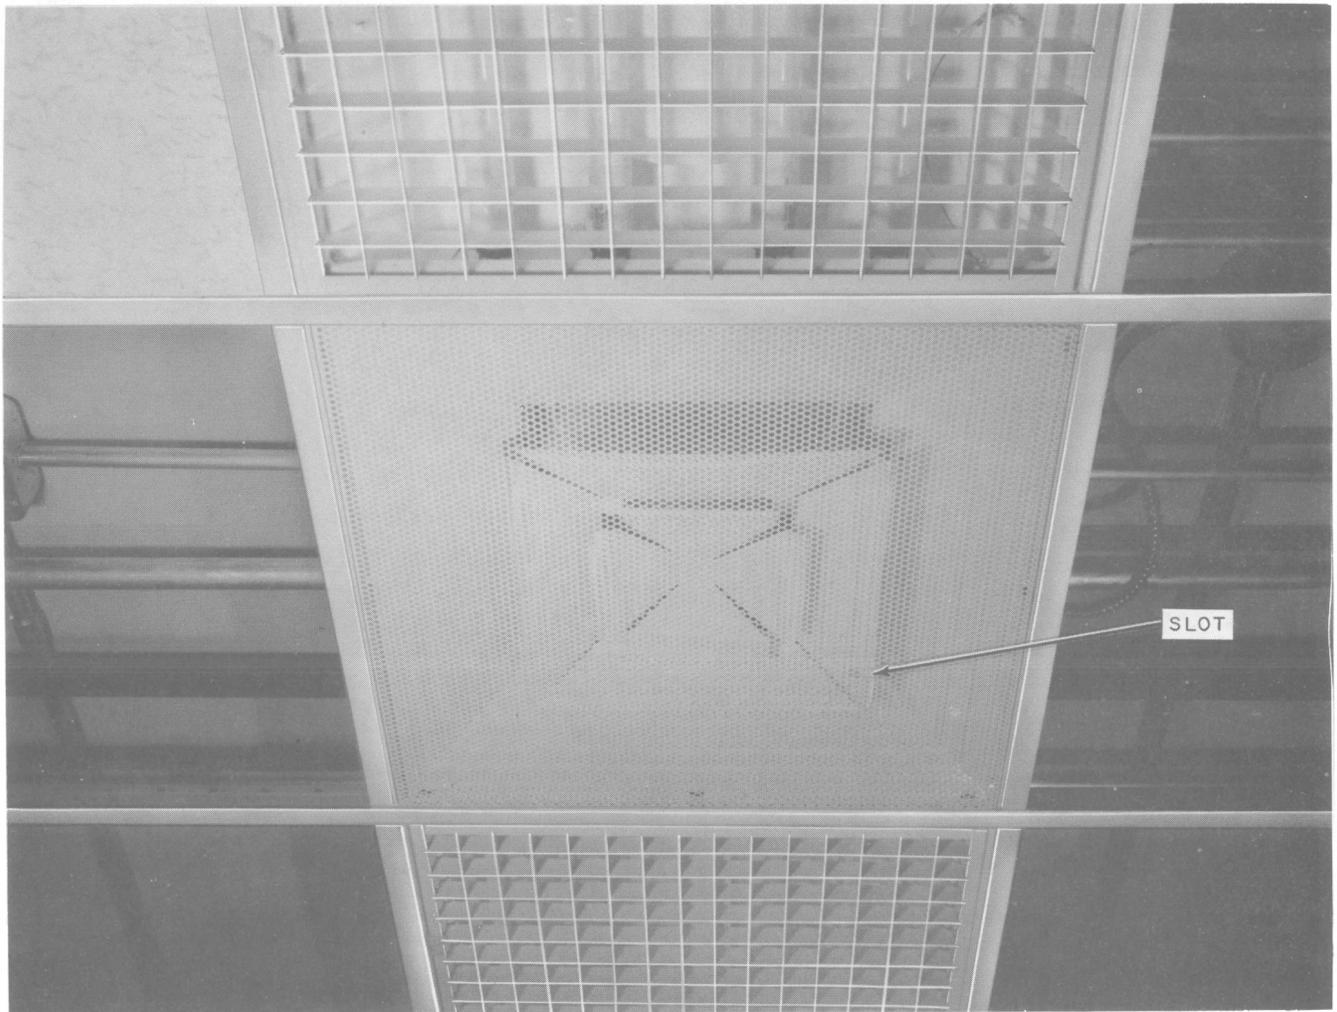
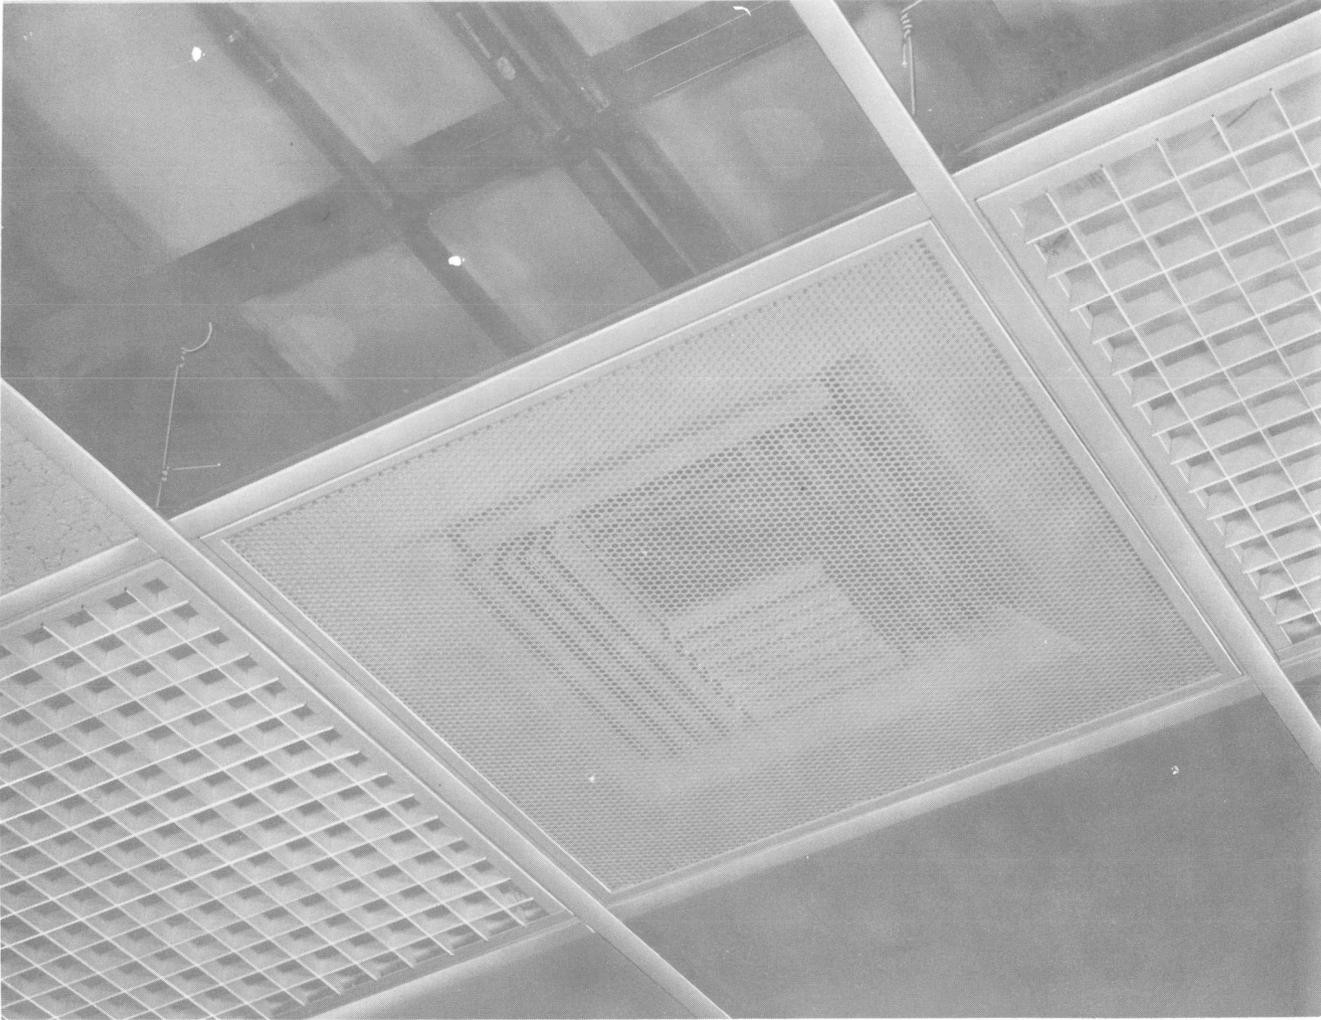
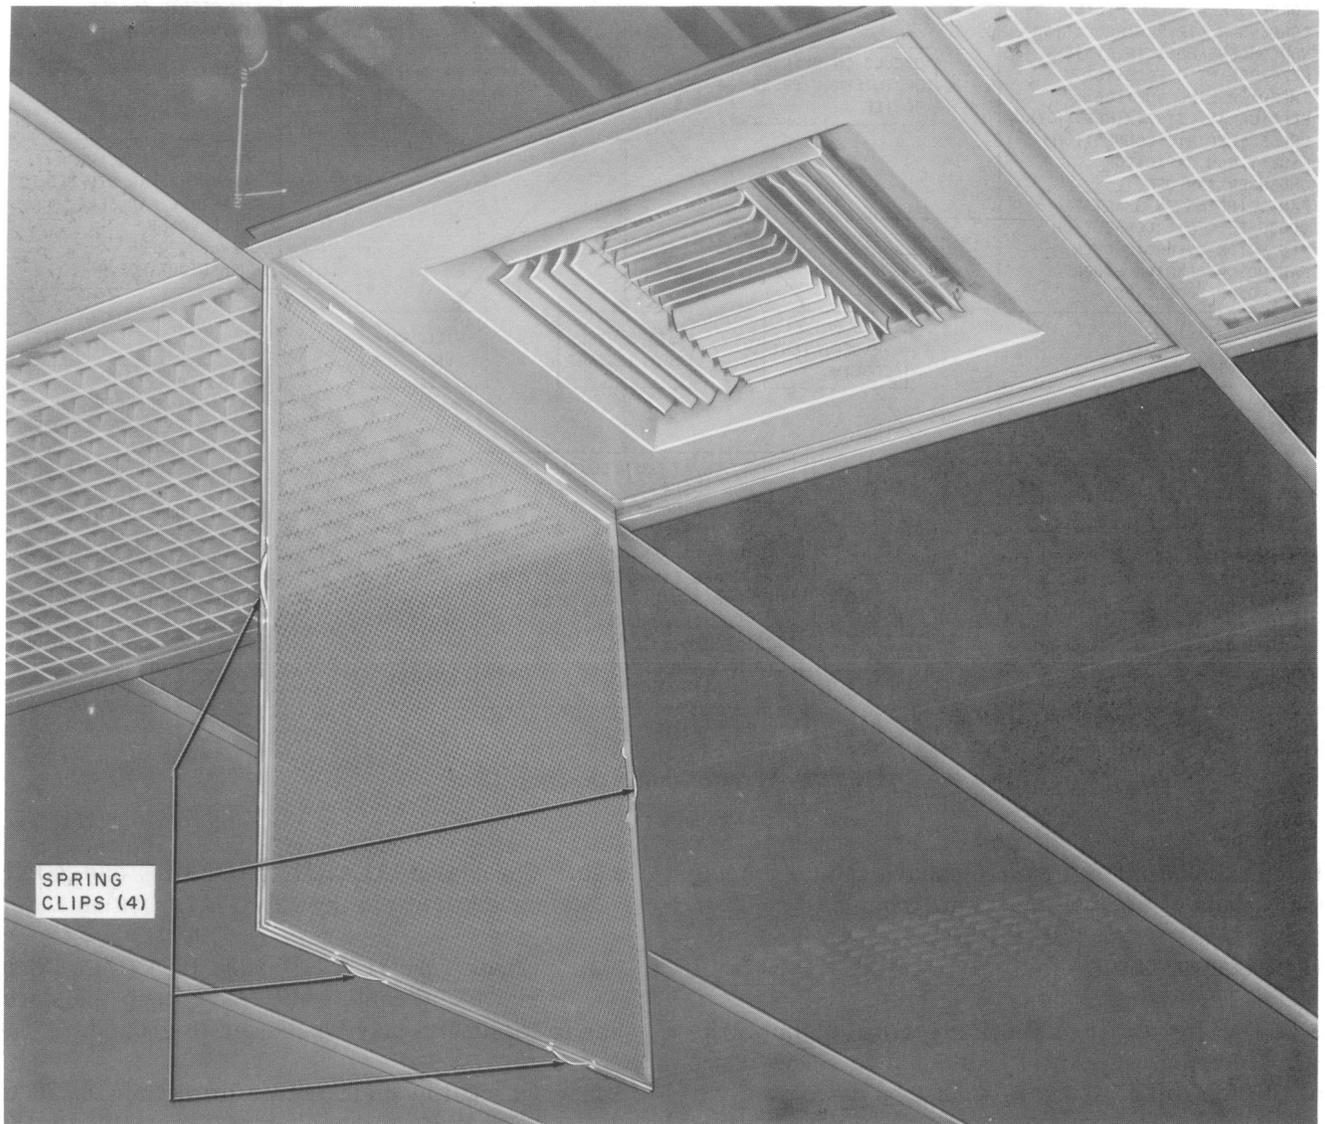

Fig. 9—Ceiling Diffuser (Old Type)
Fig. 10—Ceiling Diffuser (New Type)
Fig. 11—Ceiling Diffuser With Screen Lowered
2.16 Ceiling Diffusers and Air Regulation: The modules have a suspended ceiling of acoustical tile. The suspended ceiling is approximately 10 inches below the main ceiling. This 10-inch space acts as an air plenum for the heating and air conditioning system. Regulation of the dispersed air is accomplished by the use of adjustable louvers, refer to Fig. 9 and Fig. 10.
2.17 Regulation of the air flow through the ceiling diffuser, shown in Fig. 9, may be accomplished by actuating the spring clips on the end and on each side of the screen. Then lower the screen as shown in Fig. 11. Insert a screwdriver into the adjustable slot (Fig. 9), and turn to obtain the desired regulation.
2.18 To regulate the air flow through the ceiling diffuser shown in Fig. 10, lower the screen in the same manner as previously described. Louver adjustment, in this model, is done manually. Each louver is individually adjusted to permit the proper air flow.